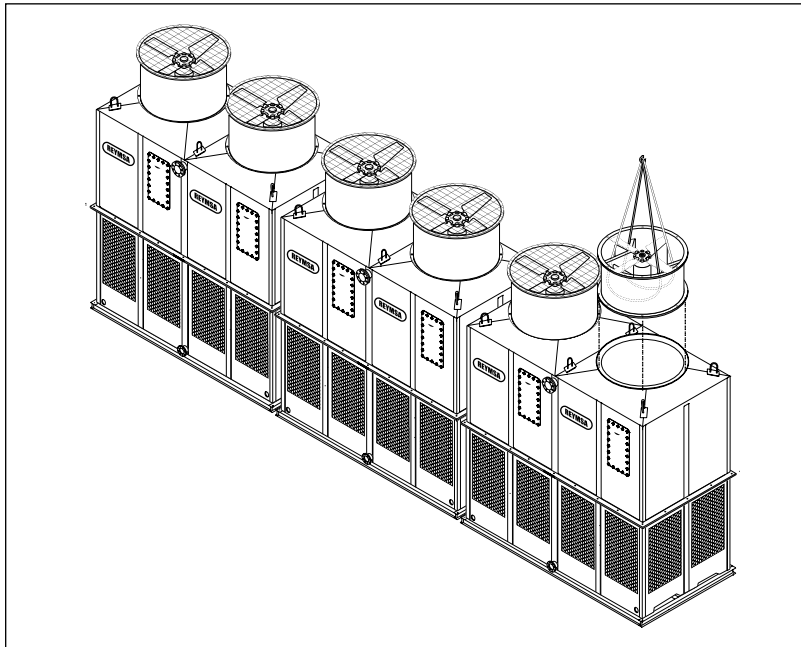

Figure A-74: Fan Duct installation for a Modular Tower (RTM-B-S or RTPM-B-S)
- H.** Follow the same instructions to place the remaining fan ducts (see figure A-74)